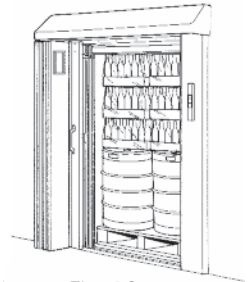

Fig. 12
- the load does not exceed the carrying capacity of the Trolleylift – if in doubt, make another trip! (Fig. 12).